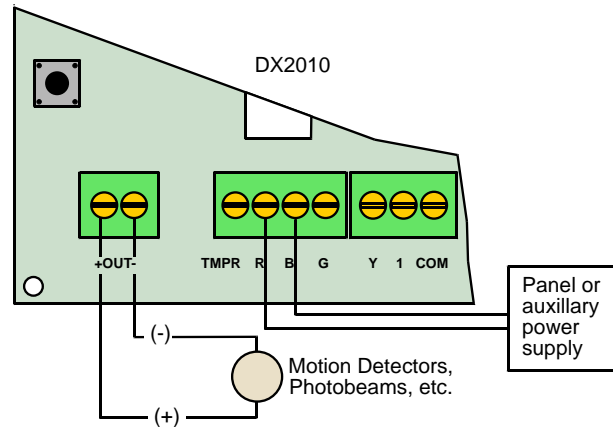

Figure 18: Auxiliary Output Connections
** If the DX2010 is powered directly by an external auxiliary power supply (Figure 18), use the wire lengths specified in the first row.
The DX2010 has the capacity to provide 12 VDC at up to 100 mA from the Auxiliary Output (-) OUT (+) terminals to power external devices such as motion detectors. See *Figure 18*.
**IMPORTANT**  If the DX2010's Aux Output ("+Out-" terminals) is used as an auxiliary power source, the DX2010's "R" and "B" wires must be home-run to either the panel or to an auxiliary power supply. Do not use a daisy-chain wire configuration. See *Figure 18*.